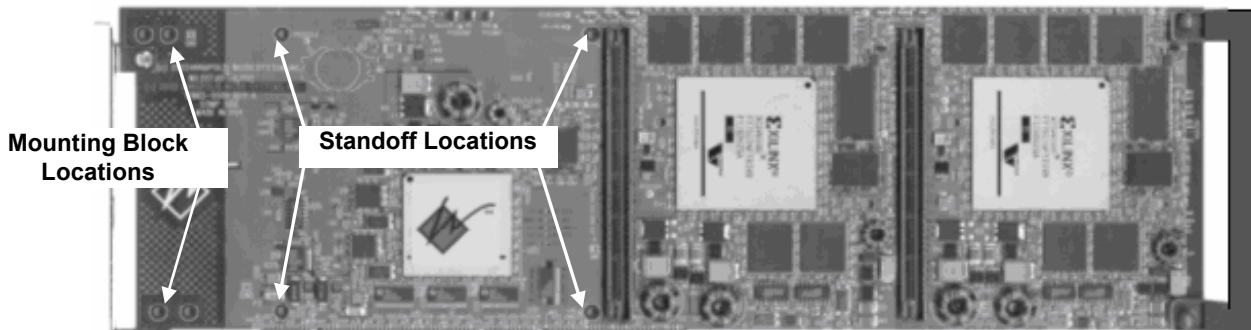

Figure 4-4: Standoff Locations for I/O Card Slot 0 of WILDSTAR™-II /PCI
13. Secure the card with four of the hex screws provided (see Figure 4-4). Turn the entire assembly over and use two more screws to secure the long standoffs to the motherboard. ***If there is no memory card on your WILDSTAR™/VME, see Step 8 above.***
8. Attach four standoffs (included with the card) to the component side of the WILDSTAR™-II /PCI motherboard by securing them with four 4mm hex screws (see Figure 4-4 for standoff locations). Screw them in from the solder side. *As noted earlier, the WILDSTAR™-II /PCI motherboard only supports I/O cards in I/O Card Slot 0 at this time.*
9. Attach two mounting blocks to the component side of the WILDSTAR™-II /PCI motherboard by securing them with four hex screws through the motherboard's solder side (see Figure 4-4).